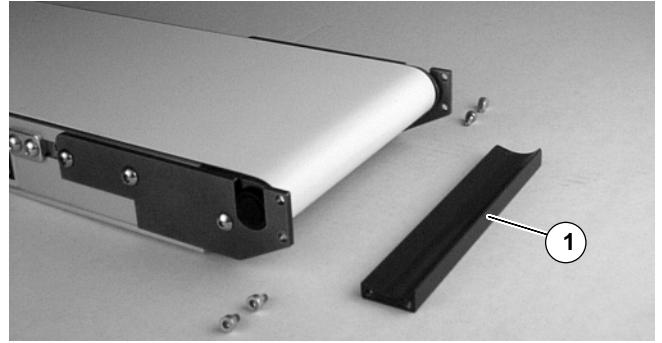

**Figure 14**
2. On side opposite gearmotor, remove two (2) screws (K of Figure 14), screw (L) and transfer cover plate (J).
4. Replace transfer cover plate and tighten screws (K & L of Figure 14).
- Tighten screws (K) to 71 in-lb (8 Nm)
- Tighten screws (L) to 28 in-lb (3 Nm)